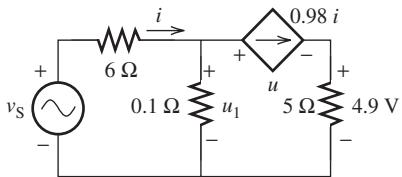

FIGURE P2.66 Circuit for Problem 2.66.
- 2.66 (H)*** A current controlled current source (CCCS) circuit is given in Figure P2.66. Find v_S and the power supplied by the dependent source.
- 2.67 (B)** Use PSpice and find the current, i , that shown in Figure P2.66.